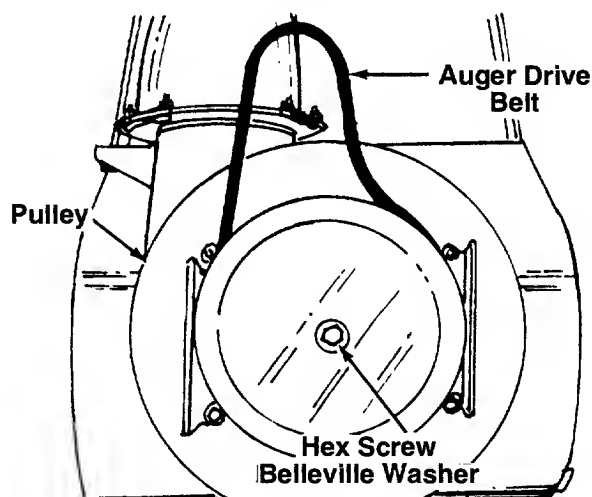

FIGURE 34.
- a. Remove the hex screw and belleville washer from the center of the pulley on the auger housing. Remove the pulley. See figure 34. Be careful not to lose the key.